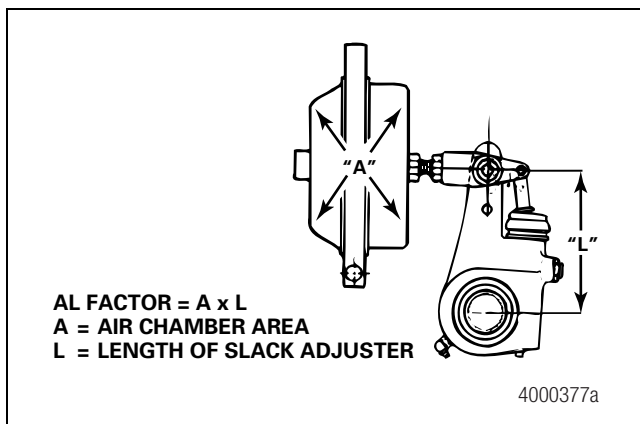

Figure 7.9
8. The air chamber area multiplied by the length of the automatic slack adjuster is called the AL factor. This number must be equal for both ends of a single axle and all four ends of a tandem axle. Figure 7.9.